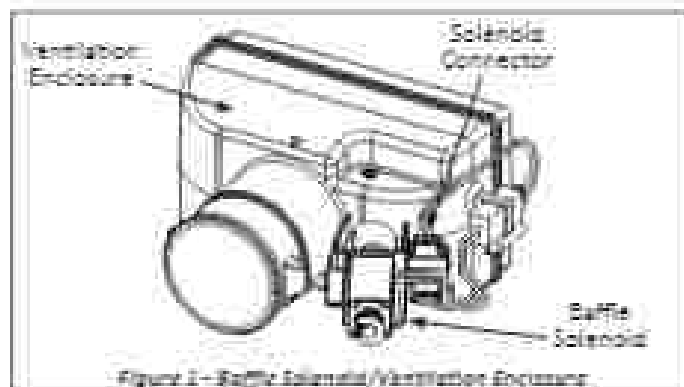

Figure 1 – Baffle Solenoid/Ventilation Enclosure
5. With an ohmmeter, check harness for continuity between the solenoid and the ACU (see figures 1 & 2).